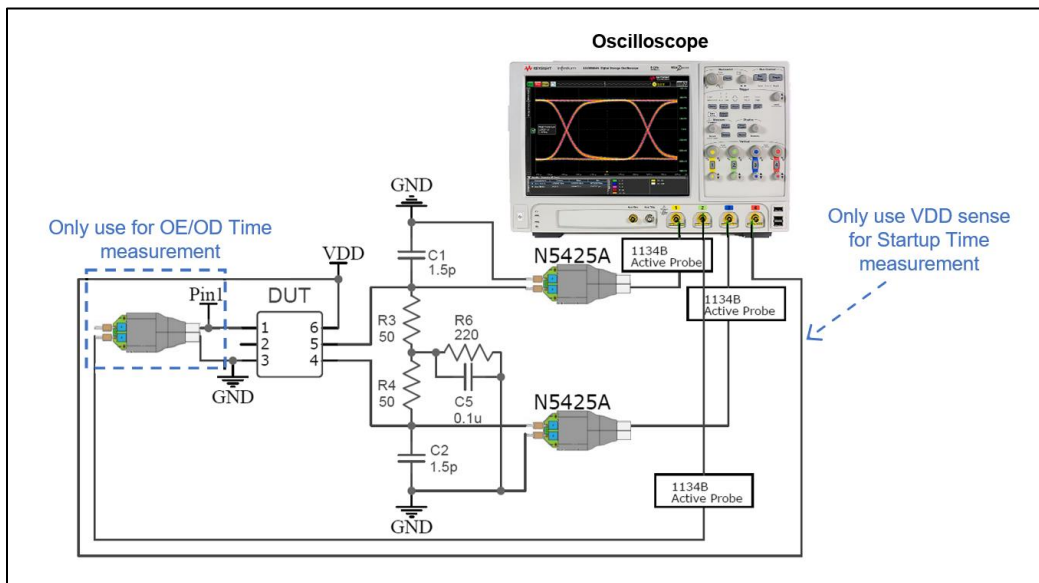

Figure 7. Test setup to measure FlexSwing Waveform Characteristics, Current Consumption^[17], Output Enable/Disable Time, and Startup Time
- 14. See Figure 7 for the test setup to measure LVPECL Current Consumption with Termination 1 or without Termination.